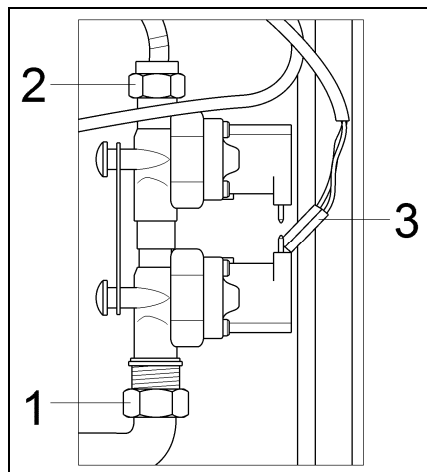

Figure 010-32: Inlet Valve Connections
4. Unscrew the hose connection, Figure 010-32, Item 1.
5. Unscrew the hose retaining nut, Figure 010-32, Item 2.
7. Disconnect the inlet valve connections, Figure 010-32, Item 3.